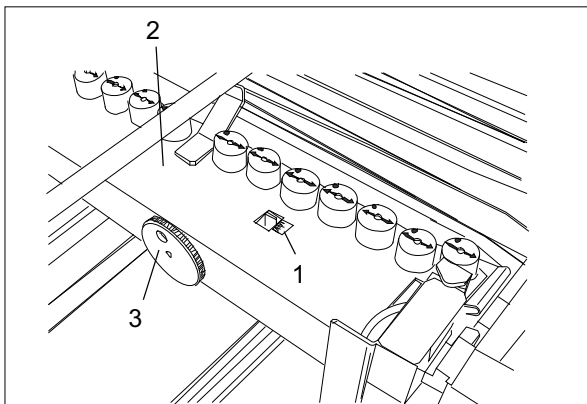

Fig. 40 Register table
- Fig. 40/1 Scale
- Fig. 40/2 Ball rail
- Fig. 40/3 Angle adjustment